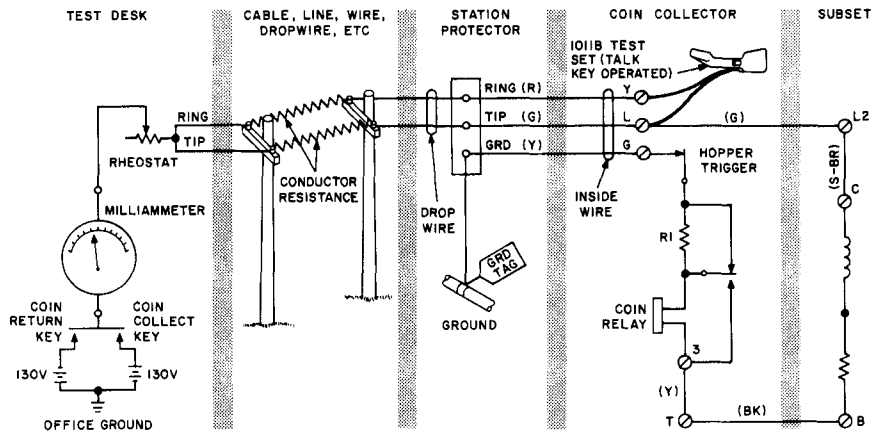

Fig. 6 - Coin Relay Current Flow Test
(1) Preparation by type of station:
- Remove upper housing and connect 1011B test set to (Y) and (L) terminals as shown in Fig. 6.
(2) With the handset off-hook operate the hopper trigger.
(3) Call testdesk and request a current flow test of the coin relay.